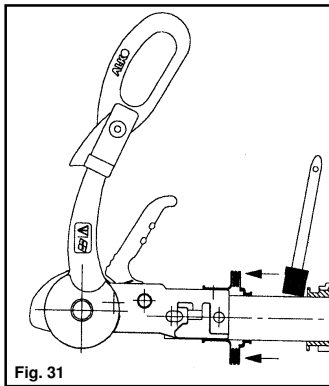

Fig. 31
- b) Lubricate the drawshaft sleeve via the grease nipples. In addition, push the gaiter forward and grease (DIN 51 825 KTA 3K) the exposed part of the shaft (Fig. 31).